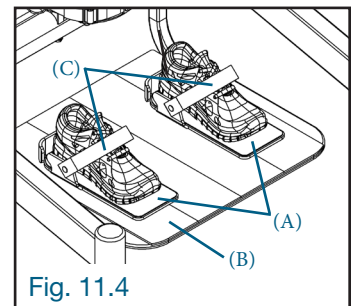

Fig. 11.4
11.4 AJUSTEMENT DES SUPPORTS DE PIED (fig. 11.4)